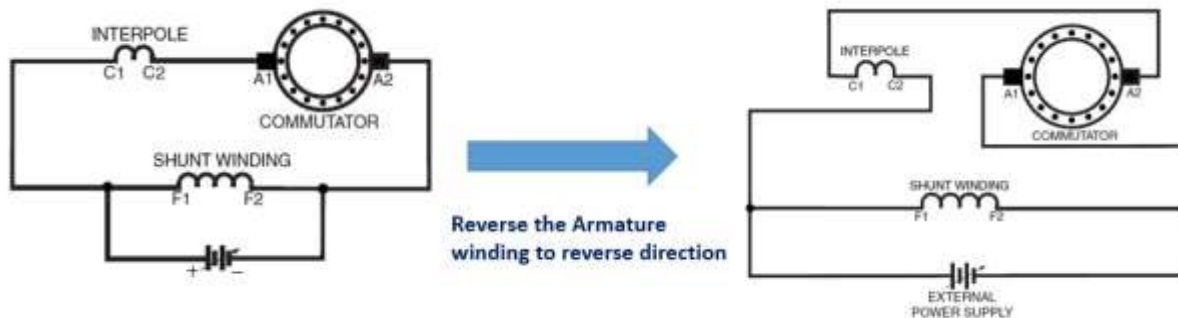

Figure 5: Reversing the Armature winding to change direction of rotation
2. Reverse the armature winding (specified as commutator in the diagram) as shown in Figure 5.